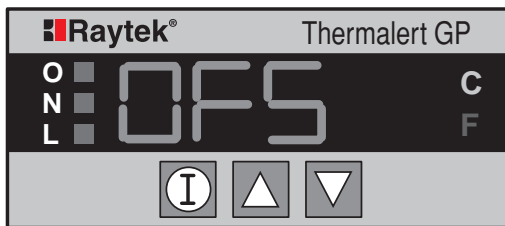

Figure 19: Offset Indicator Display
- Press the  button several times until the Offset indicator displays (Figure 19).